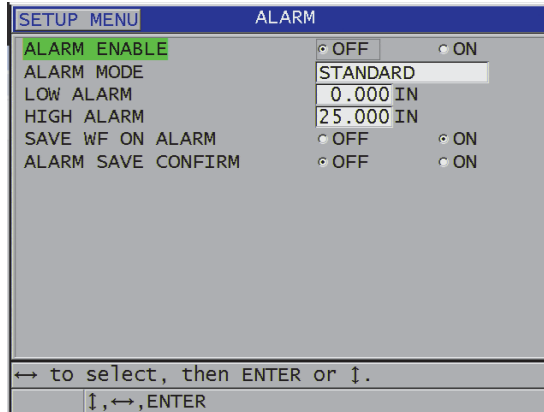

Figure 8-7 Setting up the STANDARD alarm
3. In the **ALARM** screen (see Figure 8-7 on page 141):